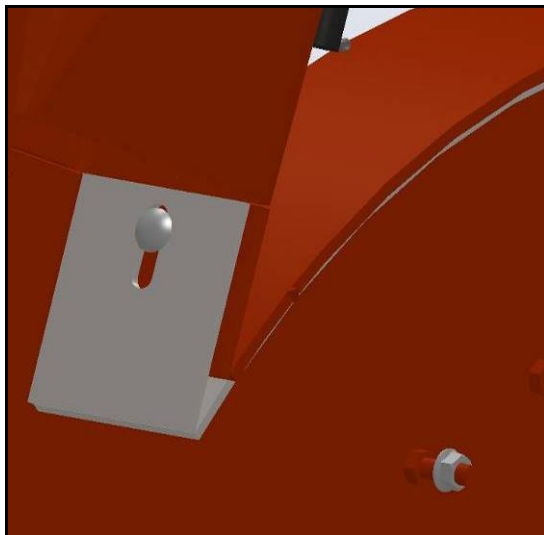

Figure 6.21 Wear Wrap - Tighten Bolt
12. You must now get the "hooked" end up as tight as possible to the rotor housing. Use a large pipe clamp down from the top or a bar to pry up against the spacer pipe. Once you have the wrap as tight as possible to the body, insert a new 3/8" x 1" carriage bolt and tighten with a whiznut (see Figure 6.21).